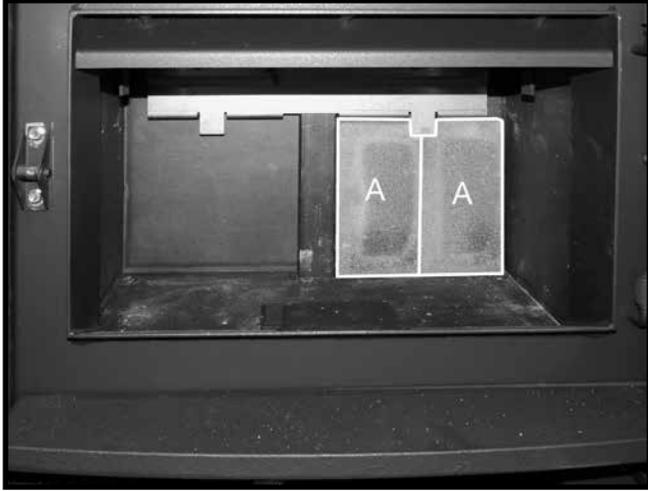
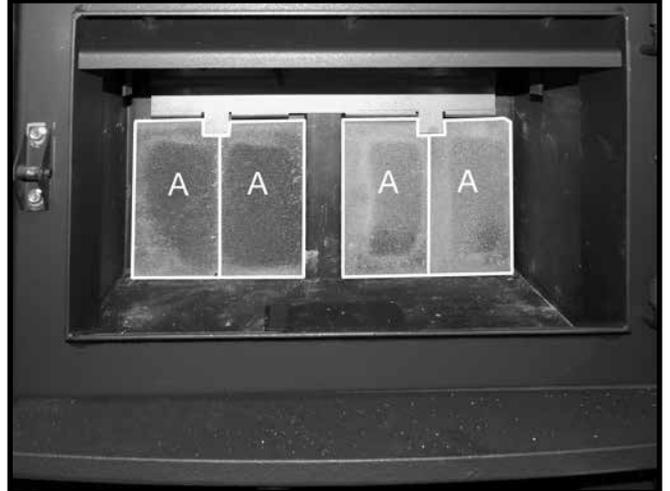

Figure 18: Installing the two rear wall firebricks.
Figure 19: Remaining rear wall firebricks in place.
2. Slide a 2nd "A" firebrick underneath the tab on the brick rail (Figure 18). Repeat steps 1 & 2 for the other side (Figure 19).